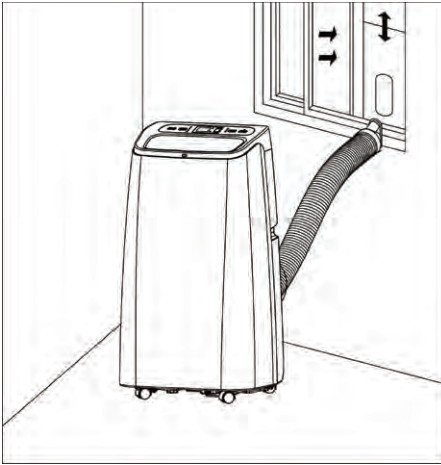

Figure 5
- Elongate the hose and snap the flat end of the hose joints into the elliptical hole of the window sealing plate assembly (as shown in Figure 5 and Figure 6) .